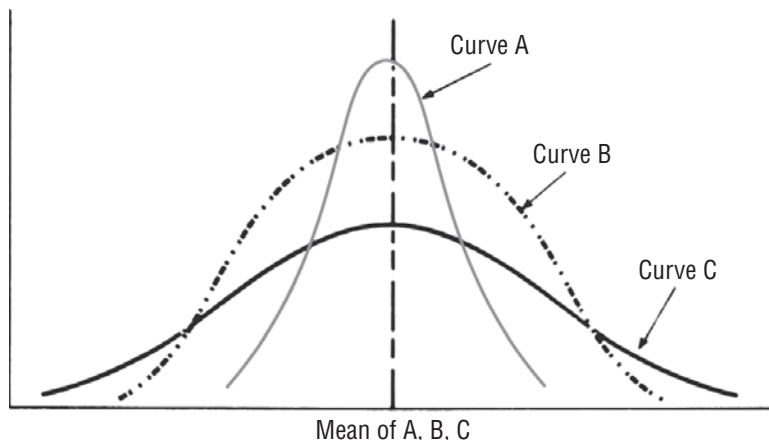

FIGURE 3-9 THREE CURVES WITH THE SAME MEAN BUT DIFFERENT VARIABILITIES
Early in this chapter, in Figure 3-2, we illustrated two sets of data with the same central location but with one more spread out than the other. This is true of the three distributions in Figure 3-9. The mean of all three curves is the same, but curve A has less spread (or *variability*) than curve B, and curve B has less variability than curve C. If we measure only the mean of these three distributions, we will miss an important difference among the three curves. Likewise for any data, the mean, the median, and the mode tell us only part of what we need to know about the characteristics of the data. To increase our understanding of the pattern of the data, we must also measure its *dispersion*—its spread, or variability.
Why is the dispersion of the distribution such an important characteristic to understand and measure? **First**, it gives us additional information that enables us to judge the reliability of our measure of the central tendency. If data are widely dispersed, such as those in curve C in Figure 3-9, the central location is less representative of the data as a whole than it would be for data more closely centered around the mean, as in curve A. **Second**, because there are problems peculiar to widely dispersed data, we must be able to recognize that data are widely dispersed before we can tackle those problems. **Third**, we may wish to compare dispersions of various samples. If a wide spread of values away from the center is undesirable or presents an unacceptable risk, we need to be able to recognize and avoid choosing the distributions with the greatest dispersion.
- 3-49** Of the 3 curves shown in Figure 3-9, choose one that would best describe the distribution of values for the ages of the following groups: members of Congress, newly elected members of the House of Representatives, and the chairpersons of major congressional committees. In making your choices, disregard the common mean of the curves in Figure 3-9 and consider only the variability of the distributions. Briefly state your reasons for your choices.
- 3-51** Choose which of the three curves shown in Figure 3-9 best describes the distribution of the following characteristics of various groups. Make your choices only on the basis of the variability of the distributions. Briefly state a reason for each choice.